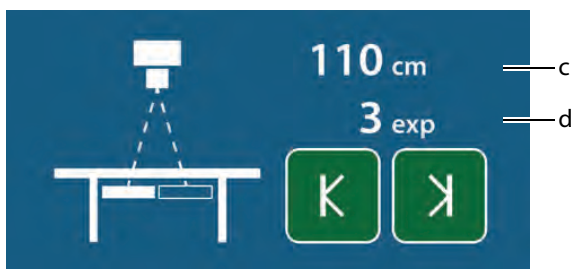

Fig. 4-29 *Left and Right Limits Set.*
- When both limits have been defined, the total length of the composite image (c), see Fig. 4-29 *Left and Right Limits Set.* and the number of exposures (d) will be shown.